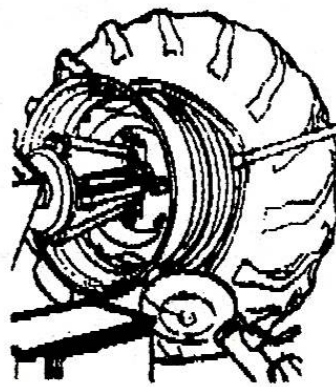

Fig2.10
- 2) Removing the inside edge of the tire: Pick up the tool arm, lower the tire down and make it touch the lifting car. Move the lifting car outside, you can take the tire out by using the lifting car, you can get the inside tire out. After doing it, the action is just the same as the course (Fig2.10). Remove the inside edge of the tire.